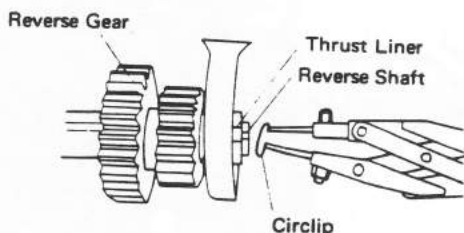

Fig. 10
6. Unscrew four screws (M8) securing the support differential lock pedal and remove the pedal. Unscrew the screws securing the range selector rod and remove the rod. **Note:** Be careful not to drop the selector ball and selector pin. Take out the selector fork (A) and the range selector fork.
9. Remove the reverse shaft circlip with a special tool (S-0, SNAP RING PLIERS). Unscrew the transmission case locating bolts and strike the reverse shaft, and the reverse shaft can be pulled backward (Fig. 10).